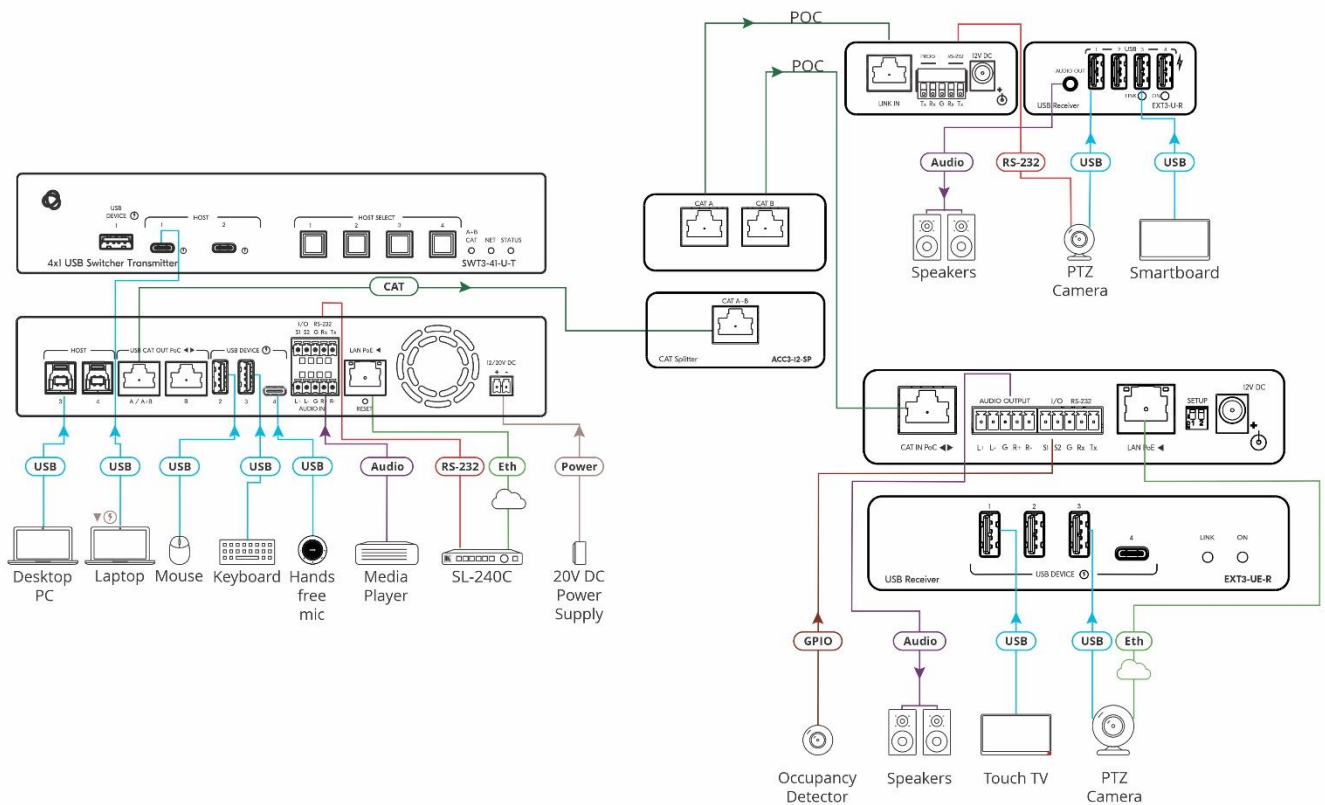

Figure 6: Connecting to the SWT3-41-U-T
- i** In (Figure 6) **SWT3-41-U-T** is connected to dual receivers using a CAT splitter to save CAT cables wiring expenses. If not CAT splitter is required, **SWT3-41-U-T** can connect directly to either one of the required receivers **EXT3-UE-R** and **EXT3-U-R** based on needs.
To connect **SWT3-41-U-T** as illustrated in the example in Figure 6: